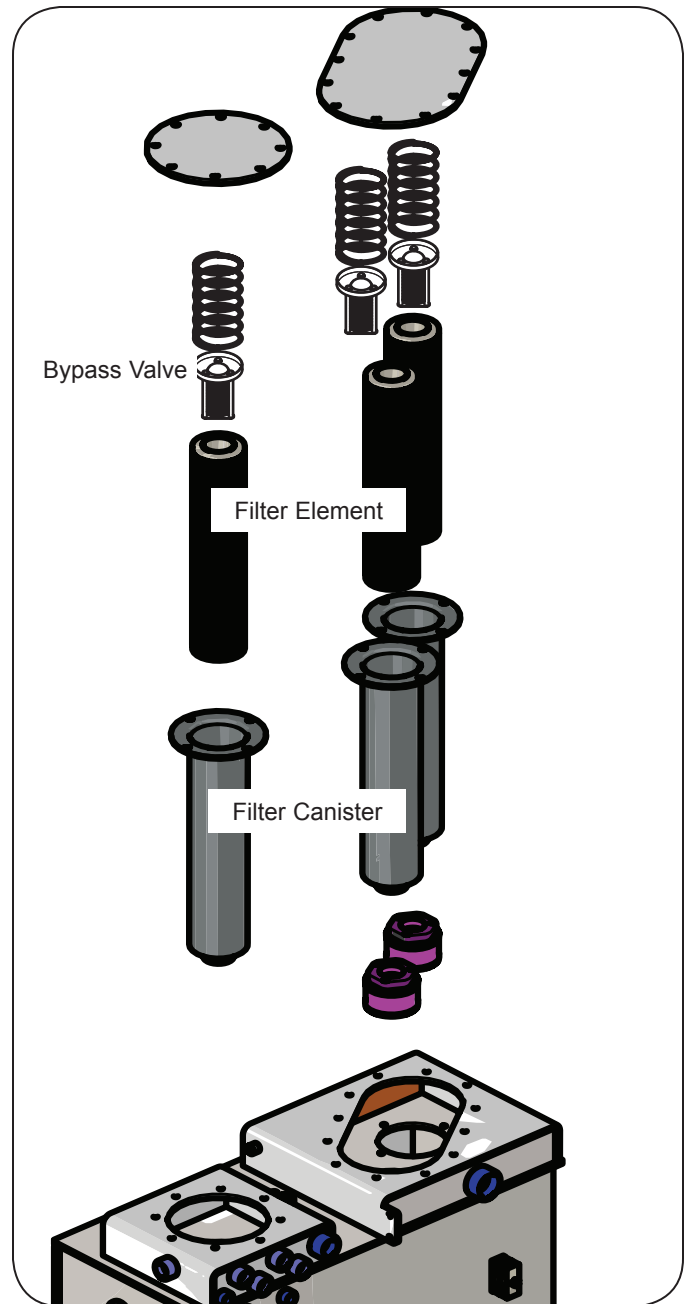

Figure 7: Exploded View - Hydraulic Tank Filters & Strainers
3. Remove the bolts securing the cover over the return filters on top of the hydraulic tank. See Figure 7.
4. Remove the spring and bypass valve to expose the filter element. See Figure 7.